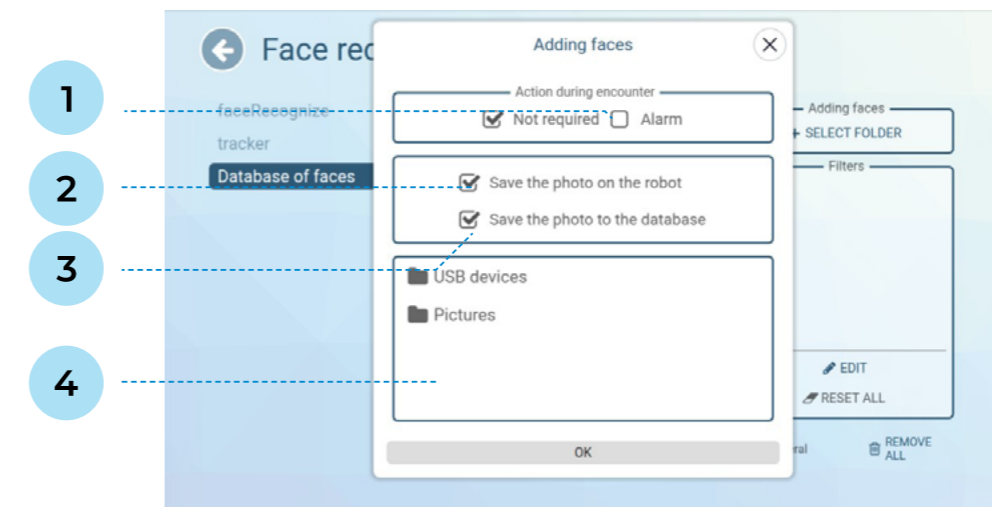

Fig. 6.17. Adding photos to the face database
- Select a folder** — here you can upload photos of people so that the robot knows them in advance and the person does not have to go through the introduction procedure when meeting the robot (Fig. 6.17).